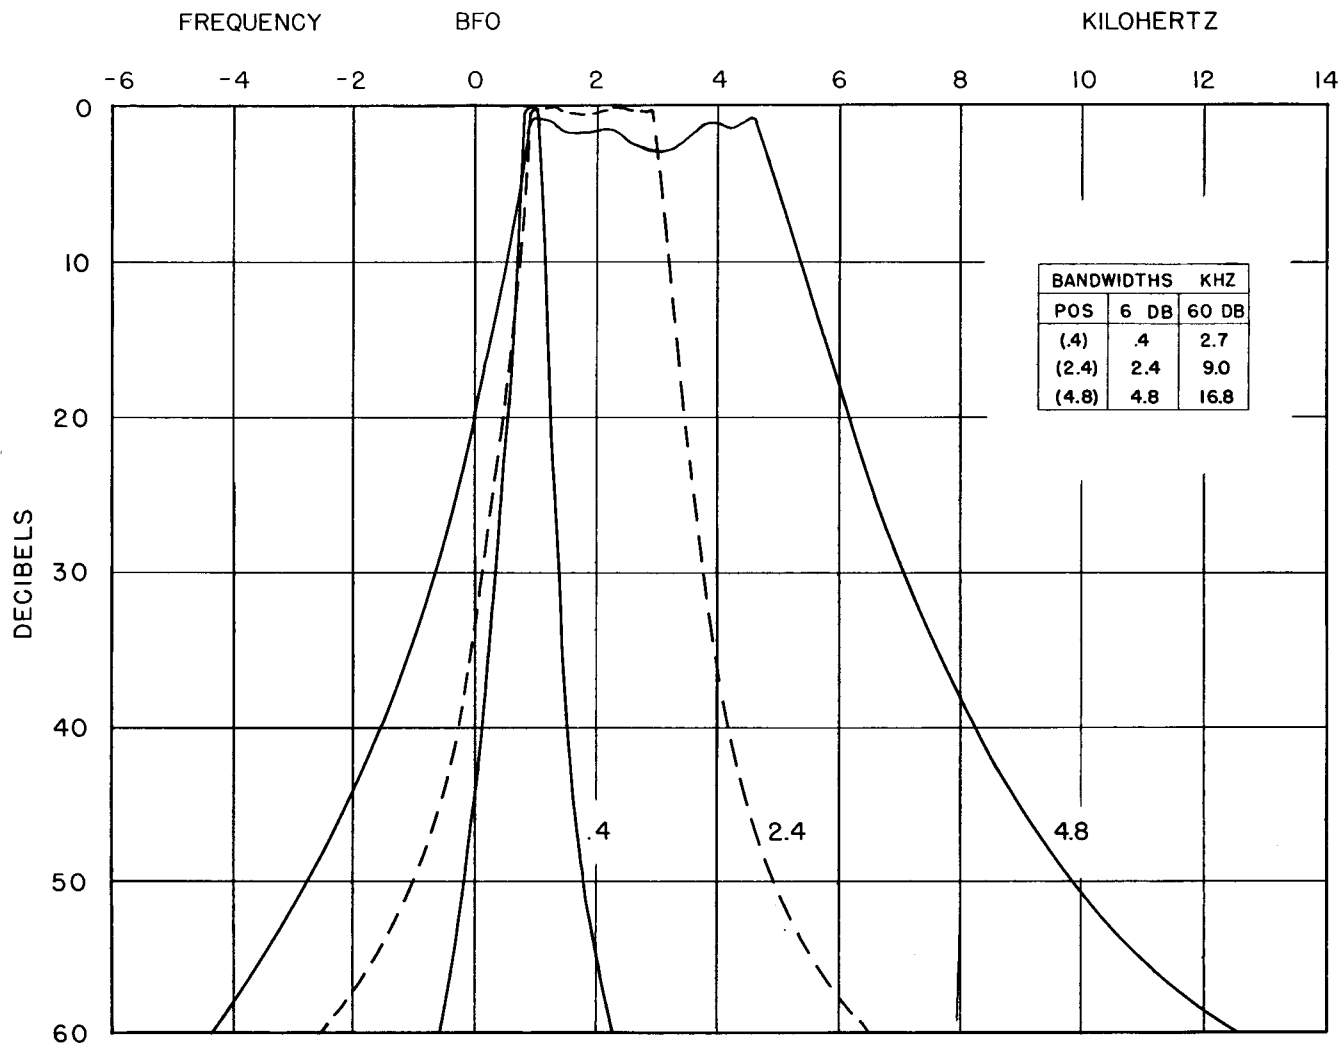

FIG 3-2 2-C SELECTIVITY CURVES
I. F. selectivity is determined by the pass band filter which consists of four tuned circuits of very high Q, tuned to the same frequency. The selectivity switch, switches coupling and shunt capacitance in each tuned circuit to provide three steep sided selectivity curves as shown in Fig. 3-2.